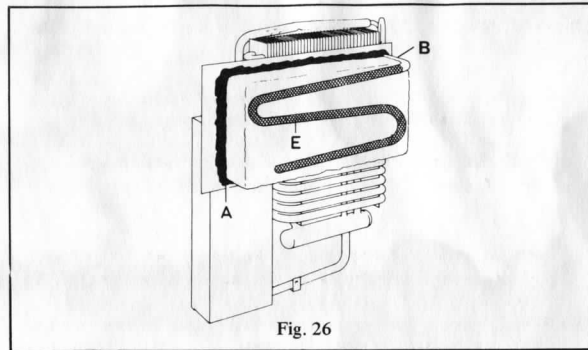

Fig. 26
- Be sure to apply sealing Permagum (A) (Fig. 26) on the unit mounting plate and on the high evaporator inlet tube (B).
- Be sure to apply proper amount of "Thermal Mastic" on the evaporator coil (E) (Fig. 26).